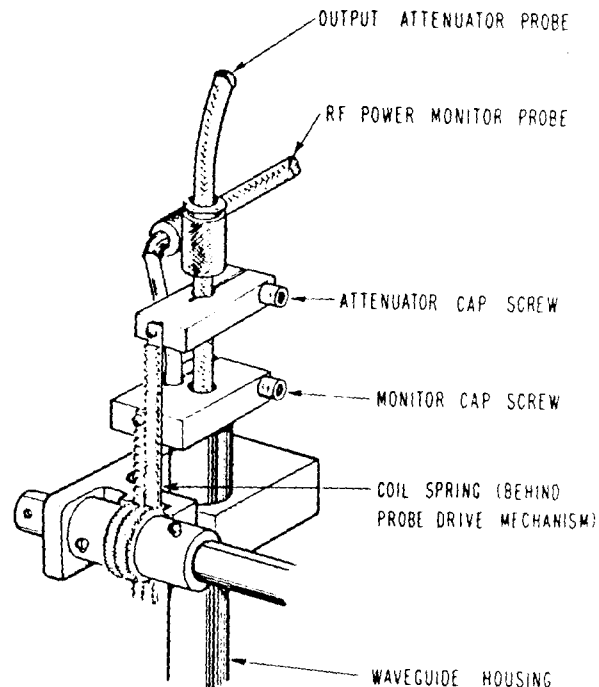

Figure 5-20. Attenuator and Monitor Probe Assemblies (620B)
c. Mark the attenuator cable where the cable enters the attenuator mounting block. Loosen the cap screw shown in Figure 5-20 on the mounting block holding the attenuator cable. Pull probe straight out.